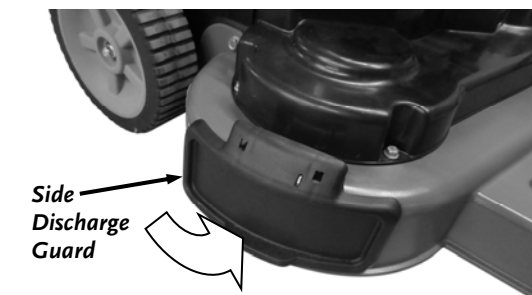

Figure 17
3. Ensure the Discharge Deflector is removed and the Side Discharge Guard is down (**Figure 17**).
1. Ensure the Discharge Deflector is removed and the Side Discharge Guard is down (**Figure 17**).
2. Lift the Side Discharge Guard (**Figure 17**) to access to the Pivot Rod (**Figure 18**).